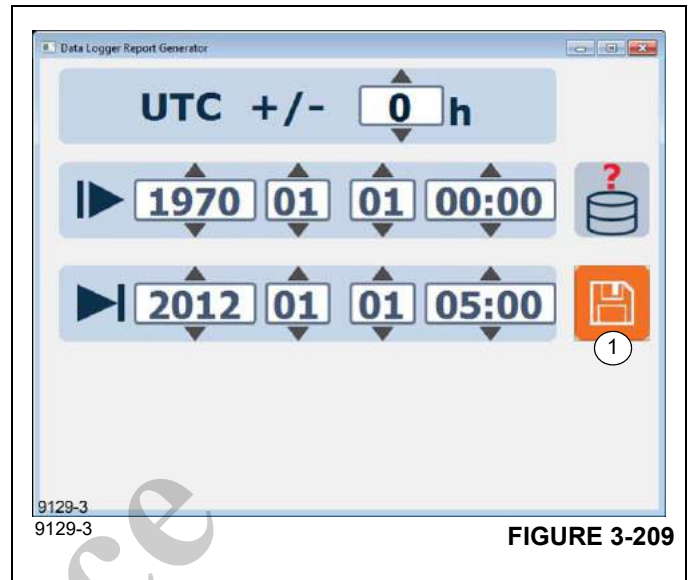

FIGURE 3-209
6. Choose the time span for the report (Figure 3-209), the default is the maximum amount of time possible. After
the report is generated the disk save icon (1), (Figure 3-209) will be highlighted.